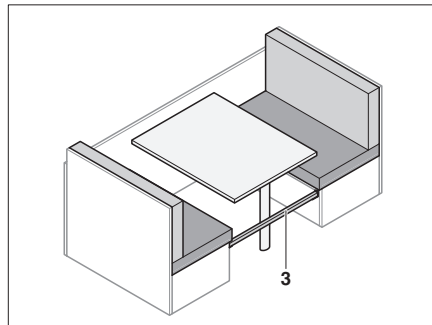

Fig. 64 Inserting the reinforcement panel
- Insert the additional rail (Fig. 64,3) between the benches.